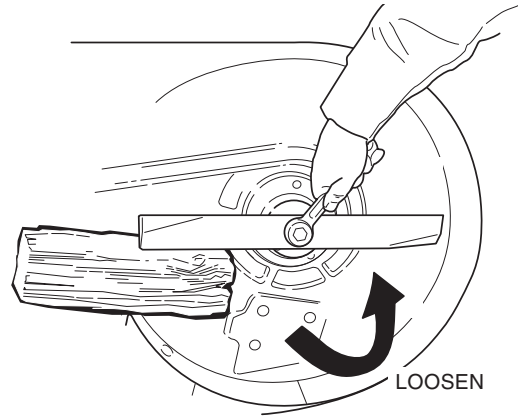

Figure 22. Blade Removal
2. Remove blade to inspect it or to safely access the underside of the mower deck (see Figure 22). Use a block of wood to prevent blade rotation while loosening the capscrew by turning it counterclockwise.